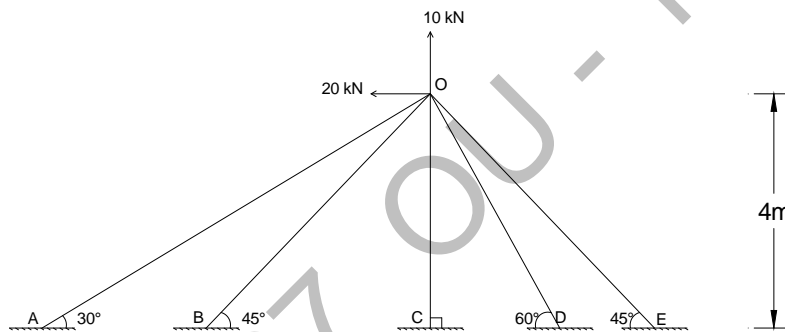

Fig.3
14. Analyse the plane truss shown in fig.3 using stiffness matrix approach.